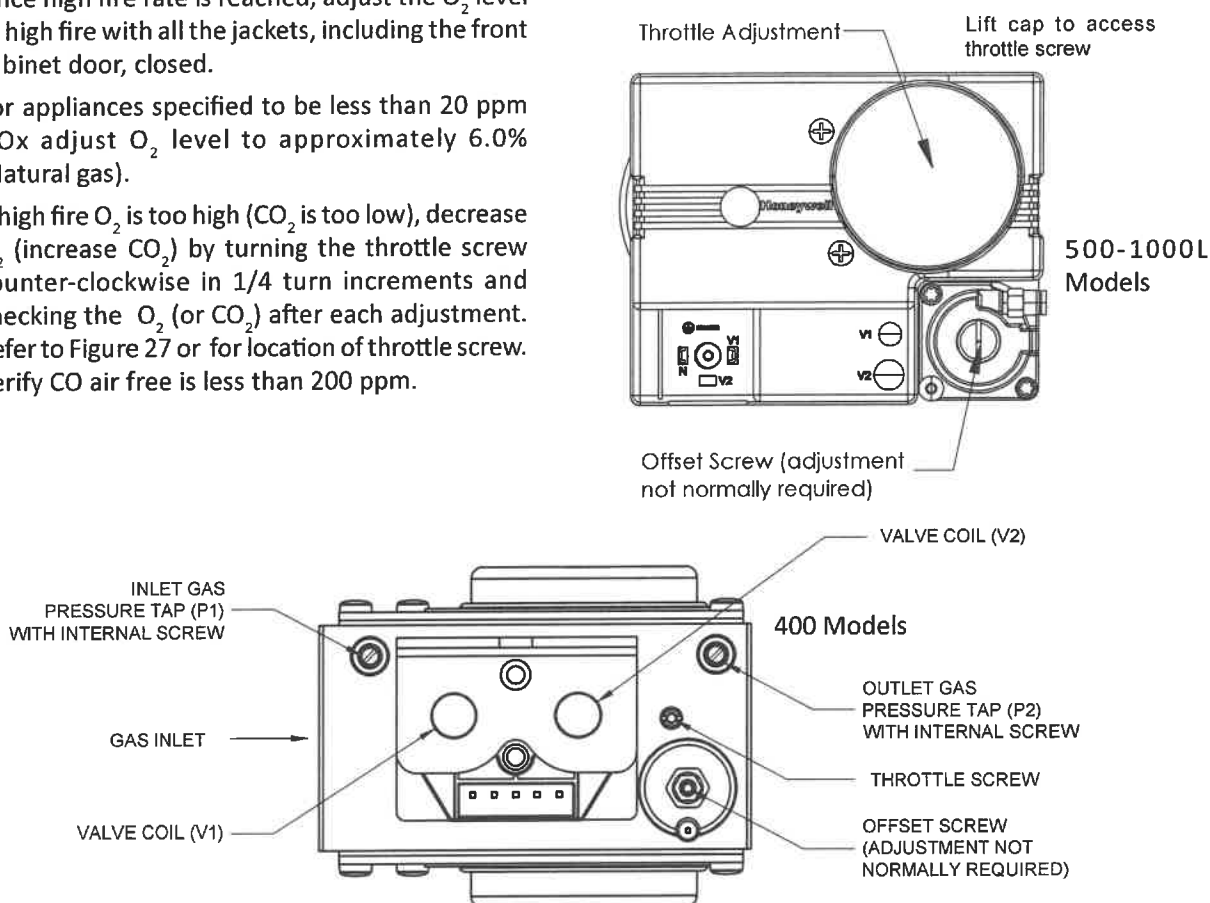

Figure 27: Gas Valve Adjustment
- d. If high fire O_2 is too high (CO_2 is too low), decrease O_2 (increase CO_2) by turning the throttle screw counter-clockwise in 1/4 turn increments and checking the O_2 (or CO_2) after each adjustment. Refer to Figure 27 for location of throttle screw. Verify CO air free is less than 200 ppm.
- e. If high fire O_2 is too low (CO_2 is too high), increase O_2 (decrease CO_2) by turning the throttle screw clockwise in 1/4 turn increments and checking the O_2 (or CO_2) after each adjustment. Refer to Figure 27 for location of throttle screw. Verify CO air free is less than 200 ppm.